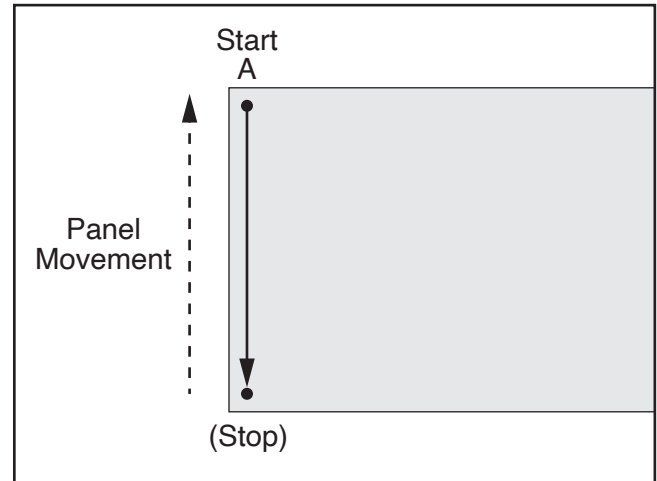

Figure 22. Starting zigzag pattern.
1. Insert workpiece between wheels at point **A**, and start rolling it along left edge, as shown in **Figure 22**.
2. Push workpiece forward to stop point (see **Figure 22**).